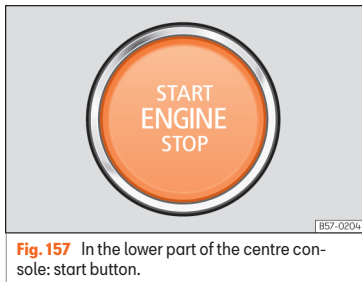

Fig. 157 In the lower part of the centre console: start button.
- Press the starter button  **Fig. 157**; do not press the accelerator. There needs to be a valid key inside the vehicle for the engine to start. After starting the engine, the lighting of the **(START ENGINE STOP)** button remains fixed indicating that the engine is running.
- Briefly press the start-up button  **Fig. 157**.